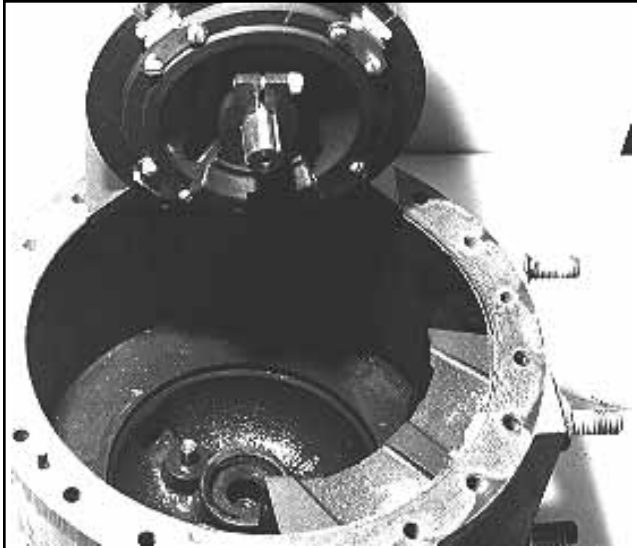

Figure 20
- **At reassembly, the slot in the locating arm must be lined up with the locating arm pin in the bottom of the housing, Figure 20.**
- **Be sure adjusting spring, Figure 20, is reinstalled at time of reassembly.**